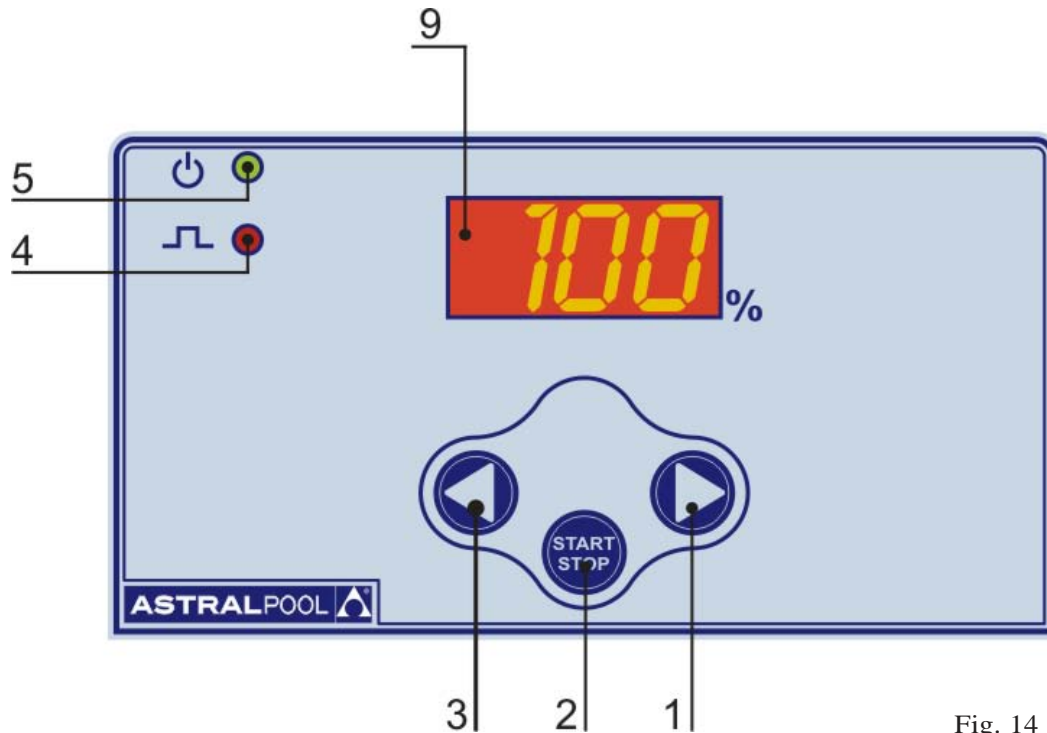

Fig. 14
Manual flow rate adjustment by means 2 buttons (LEFT (3) - RIGHT (1)) shown in figure 14.
### 7.1 - PUMP CONTROLS (Fig. 14)